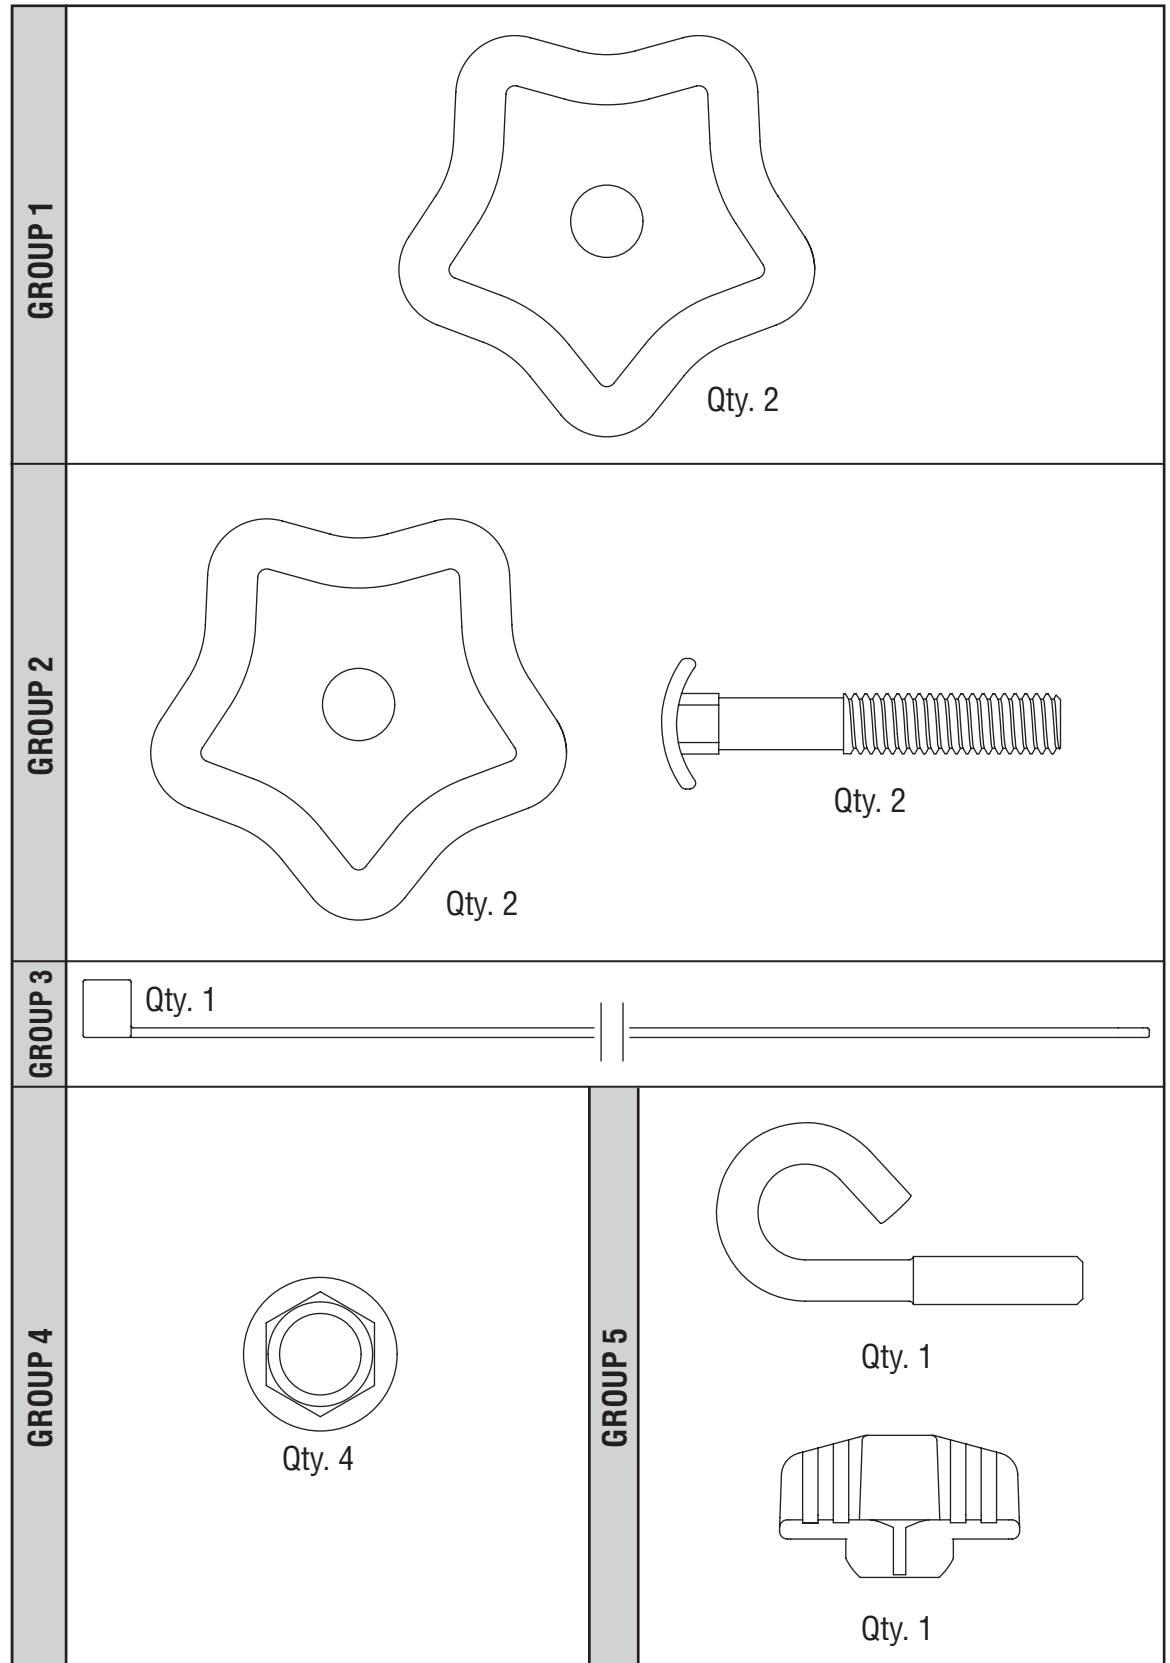

Figure 3-1: Contents of the Hardware Pack.
Carton contents include: wheels, handles (upper & lower), blade control handle, and a hardware pack. Be certain to remove all loose parts before discarding the carton. For convenience of assembly, identify and separate the pieces in the hardware pack according to Figure 3-1 below. A set of adjustable wrenches will be needed for assembly.
1. For shipping purposes, the chute deflector on your mower is held in an upright position by a retainer. Push chute deflector up towards engine. Holding deflector in this position, remove the retainer and discard, Figure 3-1.